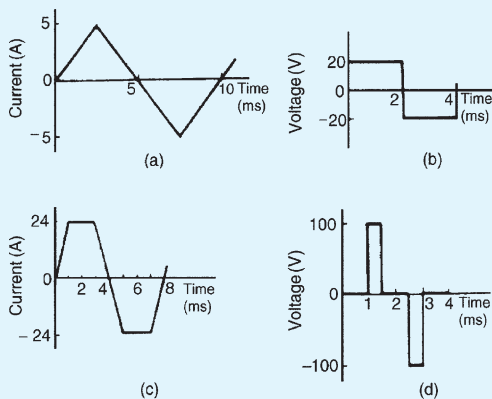

Figure 14.7
2. For the waveforms shown in Fig. 14.7 determine for each (i) the frequency, (ii) the average value over half a cycle, (iii) the r.m.s. value, (iv) the form factor, (v) the peak factor.